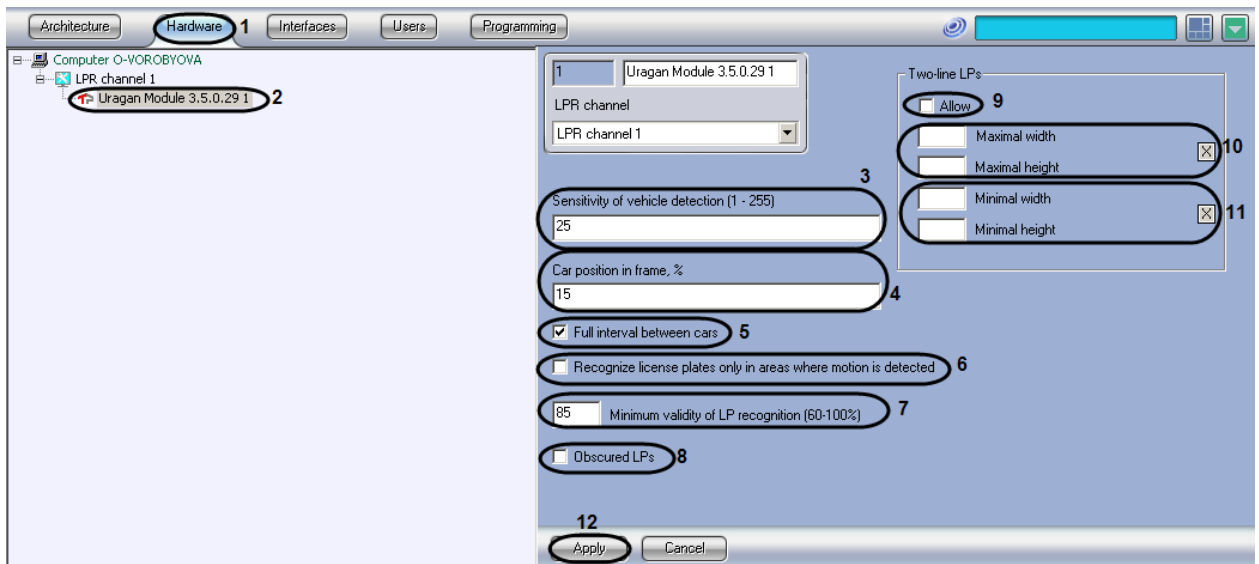

Fig. 7.2—3 Setting up the Auto-Uragan 3.5.0.29 program module
1. Go to the Hardware tab in the system setting dialog window (Fig. 7.2—3, 1).
2. In the objects tree on the Hardware tab select the Auto-Uragan 3.5.0.29 object, corresponding to the set Auto-Uragan 3.5.0.29 program module (Fig. 7.2—3, 2). The settings panel of the selected object will open on the right side of the window.
3. In the «Sensitivity of vehicle detection (1-255)» field enter the sensitivity value which characterizes the motion detector's sensitivity by the contrast of video image (Fig. 7.2—3, 3). While recognizing the Auto-Uragan 3.5.0.29 module defines the vehicle dimensions. The lower value, the more detector sensitivity. The «Sensitivity of vehicle detection» parameter value is matched by testing the detector on false triggering.
4. In the «Car position in frame, %» field enter the value in percent, showing the position of car in displayed frame (Fig. 7.2—3, 4). This adjustment is relevant only for those cars which plates have not been recognized. If the plate has not been recognized, the module gives as a result the frame located at the specified distance from the frame with first car appearance.